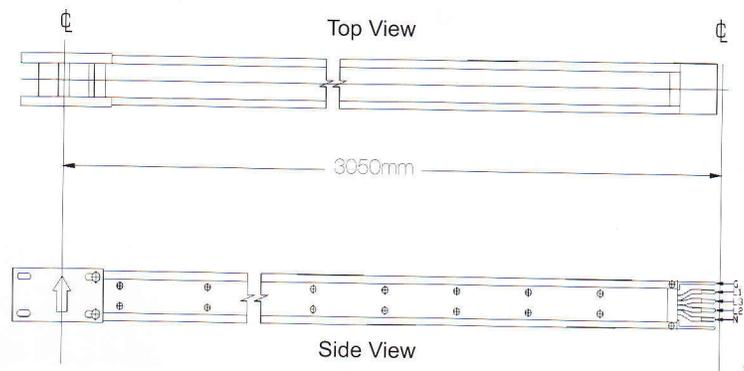

Fig 10.1 Standard feeder Section - Top and Side Views
**Feeder Section** – is available in standard length of 3050mm and with minimum 610mm. This straight length feeder is used to carry power supply directly to the machine and power station without any plug-in opening on the section. (Concentrated Load application) Refer to the Fig.10.1